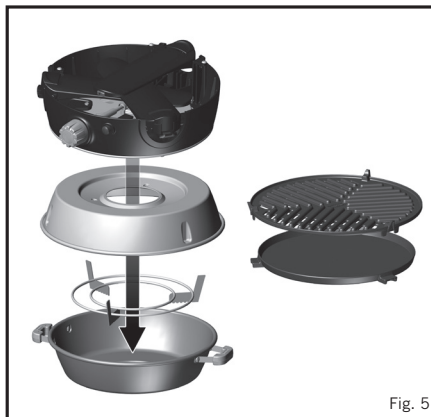

Fig. 5
- To pack away, let the unit cool. After cleaning, fold the legs of the appliance as described in section 3 above. Place the pot / dome at the bottom of the bag. Next, place the pot stand upside down into the pot / dome. Place the fat pan upside down over the pot and pot stand. Then place the appliance upside down onto the fat pan. Place the grid and flat pan into their separate holders located in the lid of the bag and zip them closed. Fold over the lid of the bag, and zip it closed. (Fig. 5)